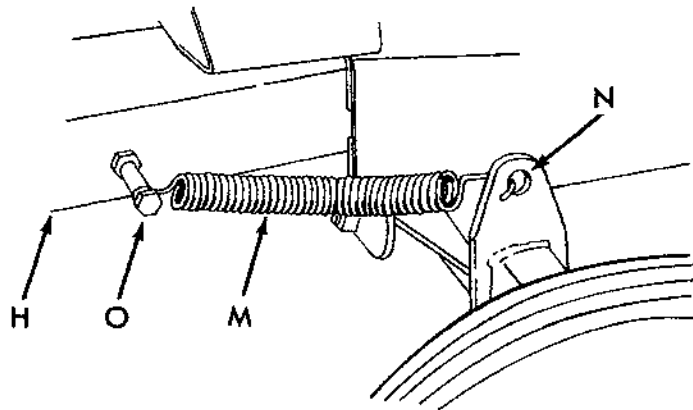
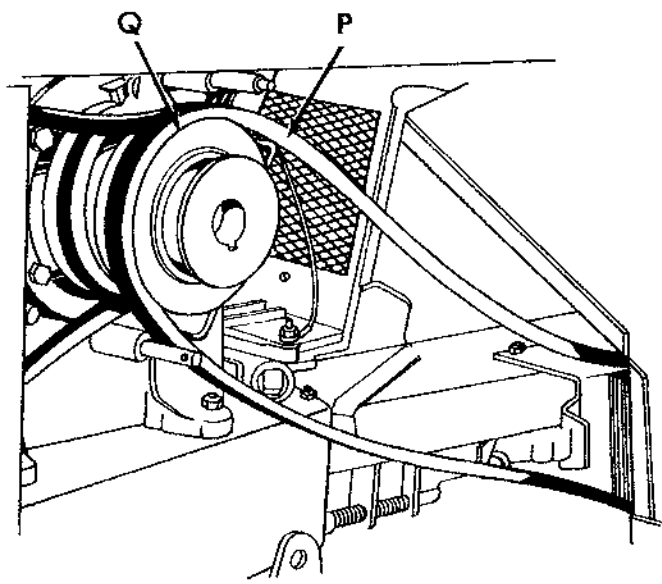
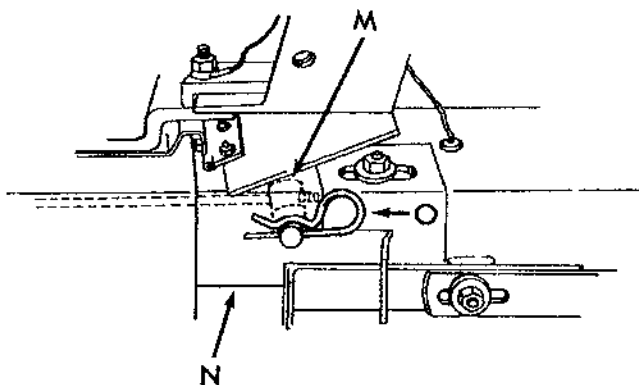

FIG. 7
FIG. 8
FIG. 9
4. Refer to Fig. 7. Hook spring (M) from hole in L.H. upper front axle bracket (N) to bolt (O) on L.H. side of mounting channel (H) as shown.
5. Refer to Fig. 8. Place drive belt (P) in largest groove of engine pulley (Q) (second groove from outside).
Disconnect spring (Fig. 7, page 6), shorting wire at connector (Fig. 11, page 6), belt tightener link (Fig. 9 page 6), and belt at engine pulley (Fig. 8 page 6). Reverse steps 3, 2 and 1 page 5.